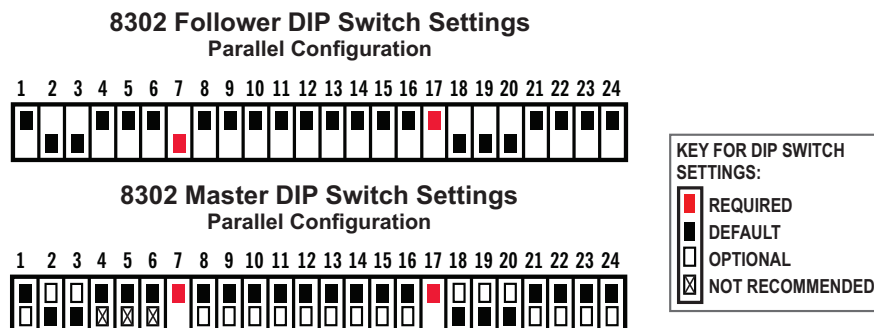

Figure 6.7 – Required DIP switch settings for parallel amplifiers
1. Refer to **Figure 6.7** to configure each amplifier's DIP switches for parallel operation. On the amplifier designated as Follower, **set DIP switch #7 in the DOWN (Follower) position.** On both amplifiers, **set DIP switch #17 in the UP (Electronic Gain Matching ON) position.** Note that other configuration settings controlled by DIP switches can also be selected before operation. In an 8302 multi-amp system, **all settings except for Control Configuration (SW#7) and Electronic Gain Matching (SW#17) are controlled by the Master amplifier.** For these additional configurations, setting of the DIP switches on the Follower amplifier is not required.